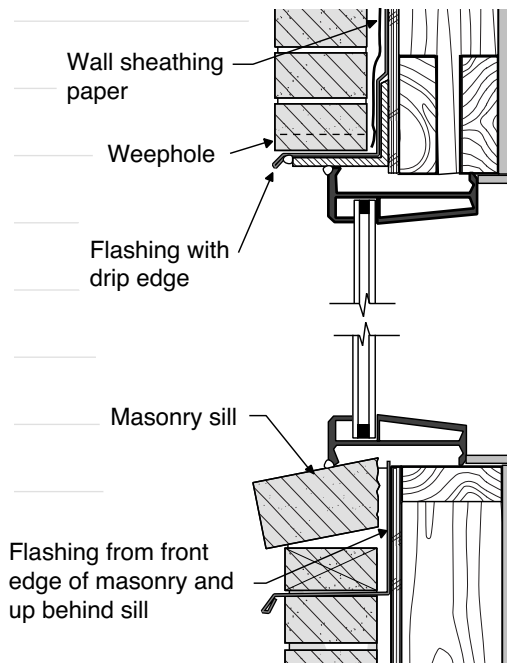

FIGURE 46
- ◆ Weepholes must remain clear to allow drainage of any moisture accumulating in the cavity (see Figure 46).